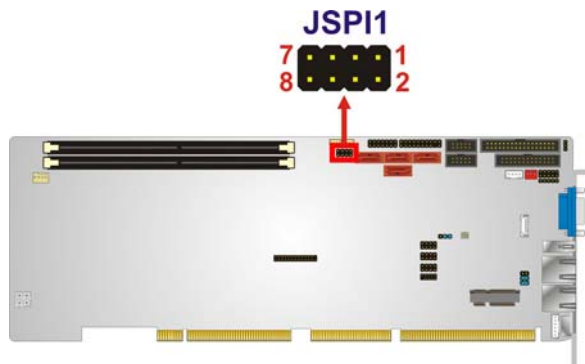

Figure 3-22: SPI ROM Connector Location
- CN Location:** See **Figure 3-22**